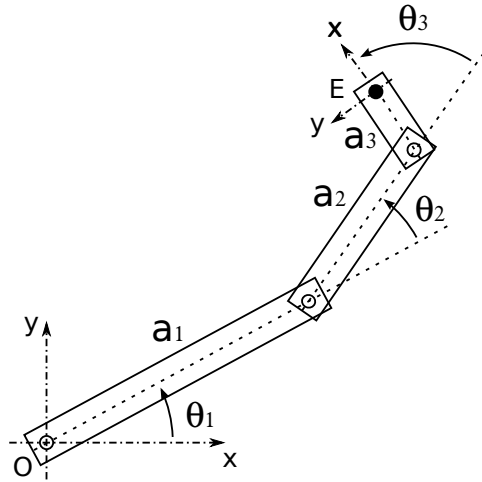

Figure 1: Three joint planar robot arm.
1. Consider the three-DOF planar robot arm given in Figure 1, which consists of three links with lengths a_1 , a_2 and a_3 connected with three revolute joints θ_1 , θ_2 and θ_3 . Derive the planar inverse kinematic equations to achieve a desired end effector pose ${}^O T_E^*$. In other words, find a function $f^{-1} : SE(2) \rightarrow S^1 \times S^1 \times S^1$ such that ${}^O T_E^* = f(f^{-1}({}^O T_E^*))$. Explain your work. Note that this is the same robot arm as the last question in your previous homework.
4. Consider the robot structure shown in Figure 1 with $a_1 = 0.75m$, $a_2 = 0.5m$ and $a_3 = 0.2m$. Write a Matlab script (`hw3_e1234567_scr2.m`) to first use Corke's Matlab toolbox to construct a serial link manipulator model with these parameters, then animate the robot following the desired path from the previous question, using the inverse kinematic equations you have derived in the second question above. You should only use Corke's toolbox to visualize the robot and not for any of the interpolation and inverse kinematics functions. Note that your work in this question will help you debug your inverse kinematics derivations.